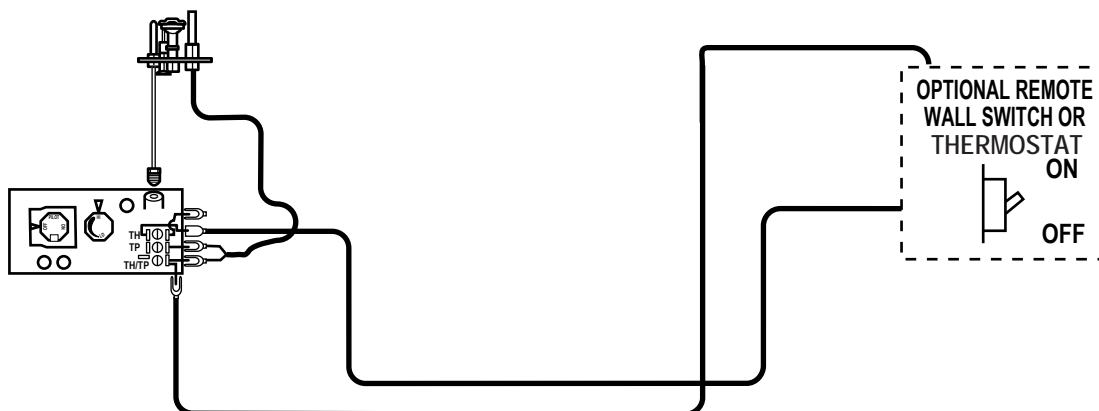

Figure 35 - Wiring Diagram for Wall Switch
A remote wall switch and up to fifteen (15) feet of 18 Ga. wire may be used with this appliance. Attach the wall switch in a junction box at the desired location on the wall. *See Figure 35.* Do not extend beyond the wall switch wire length provided.